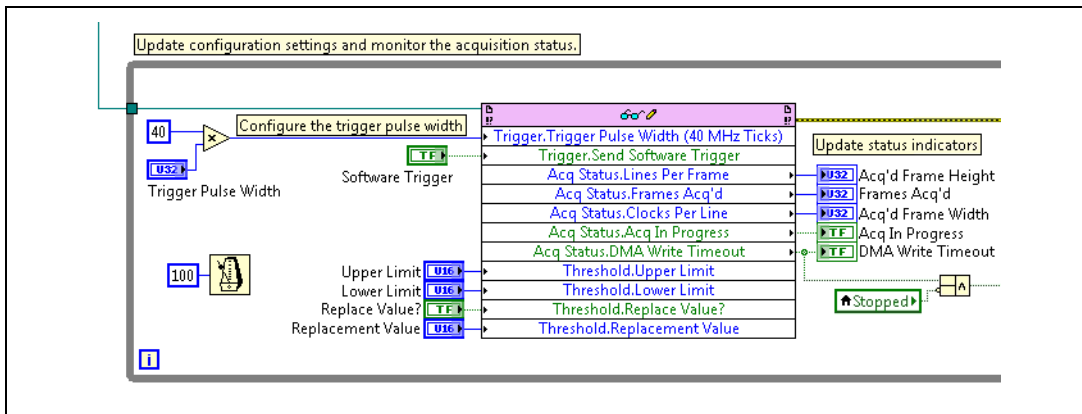

Figure 9. Send Software Triggers Loop
27. On the block diagram, locate the loop labeled **Update configuration settings and monitor the acquisition status**. While referring to Figure 9, add the following elements to the Read/Write control in the loop: **Threshold.Upper Limit**, **Threshold.Lower Limit**, **Threshold.Replace Value?**, and **Threshold.Replacement Value**. Create controls for each new element.